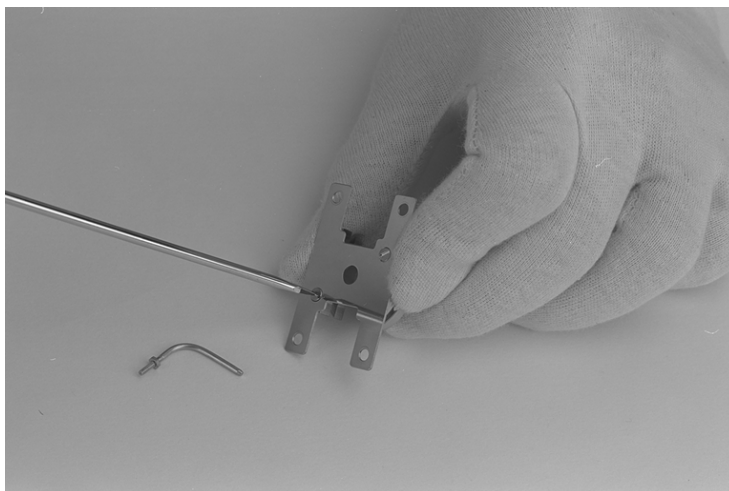

Figure 4-18. Removing gas inlet tube
11. Loosen and remove the reference inlet tube and, for CI and combined sources, the reagent gas inlet tube (see Figure 4-18).